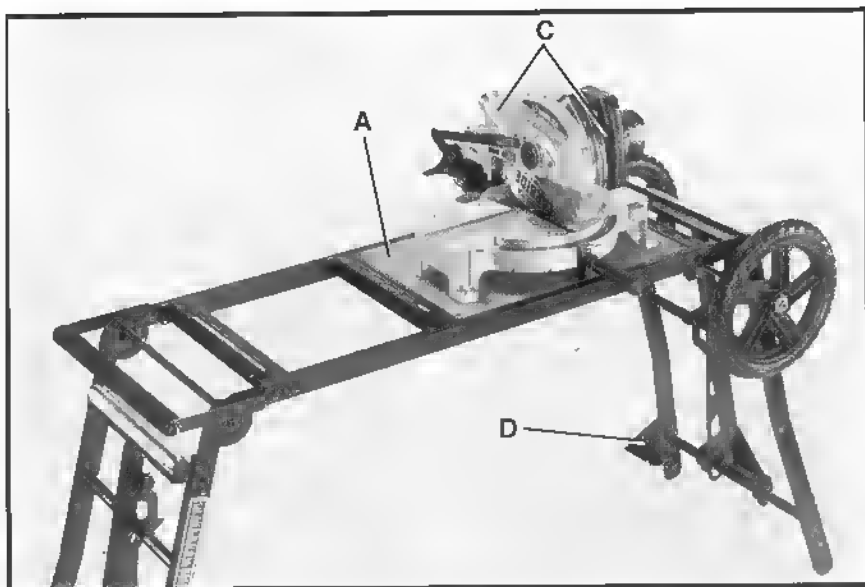
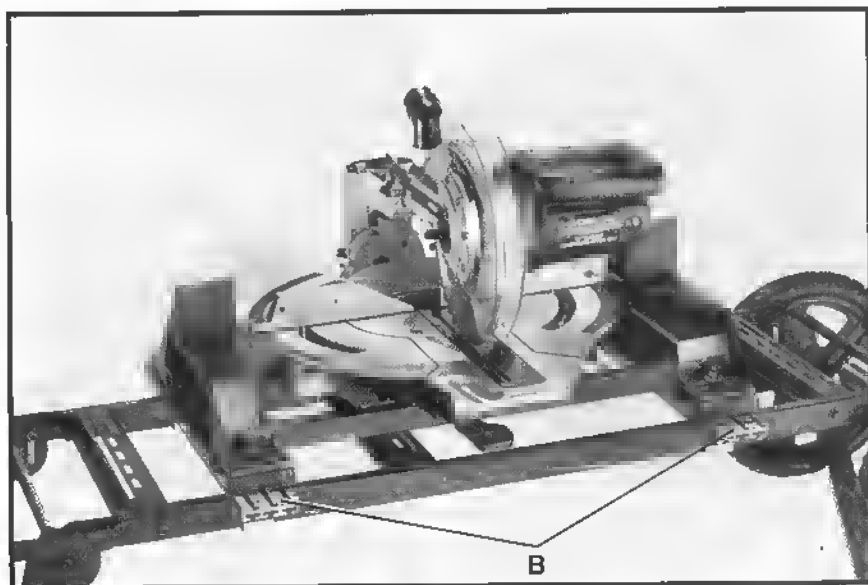

Fig. 20
Fig. 21
This saw stand is designed to be used with most miter saws, compound miter saws, and sliding compound miter saws. For most 10" miter saws and compound miter saws, the saws will be mounted to the fiberboard (A), as shown in Fig. 20. For other miter saws, compound miter saws, and sliding compound miter saws, the fiberboard (A), **MUST** be removed and the mounting rails (B) Fig. 21, **MUST** be assembled to the saw stand as shown.
1. Place the saw (C) Fig. 20, on the fiberboard (A) as shown. Center the base of the saw on the fiberboard. If the base of the saw does not overhang the sides of the fiberboard (A) Fig. 20, mark and drill mounting holes in the fiberboard. **Mounting hardware not included.** If the base of the saw does overhang any side of the fiberboard, proceed to the section **"FOR MOST OTHER SAWS"**.
NOTE: A table extension will be mounted later to the left hand side of the saw. If you would prefer to have the table extension on the right hand side of the saw, simply turn the saw 180 degrees, and make certain the stabilizers, one of which is shown at (D) Fig. 20, are assembled to the rear legs as shown. This table extension may not be used in all applications.
IF THE BASE OF THE MITER SAW DID NOT FIT ON THE FIBERBOARD AS SHOWN IN FIG. 20, PROCEED AS FOLLOWS: